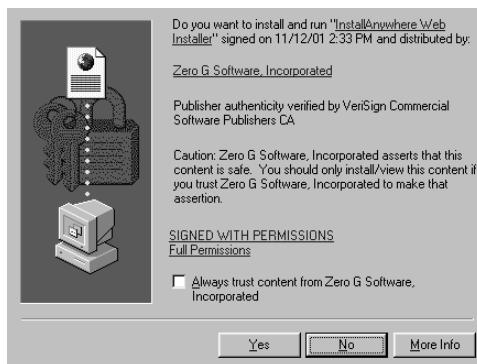

Figure 85: Security Warning page
1. On the page, click **Begin Windows Installation** to begin the installation process. A security warning page prompts you to install the InstallAnywhere Web Installer (Figure 85).